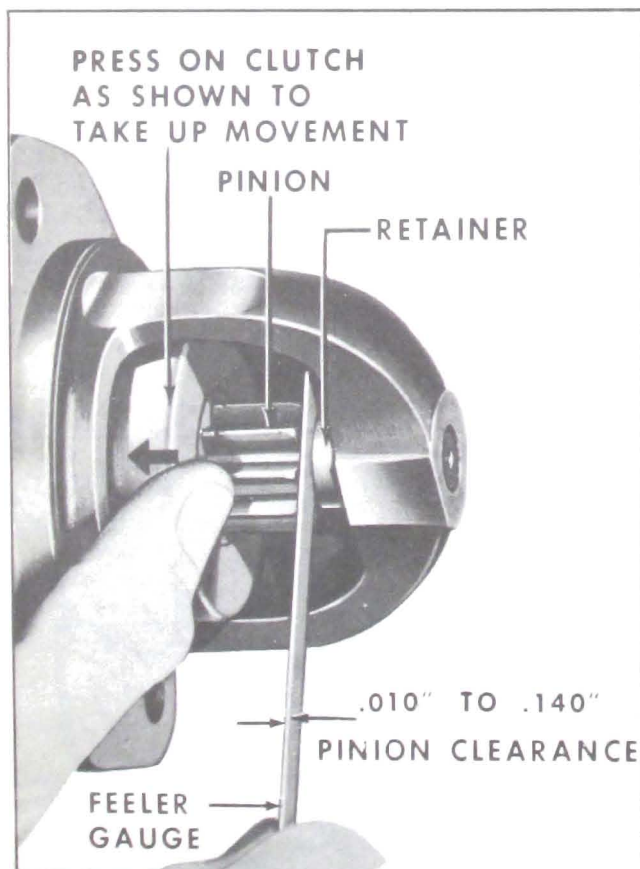

Figure 10-29—Checking Pinion Clearance
2. After energizing the solenoid, push the pinion away from the stop retainer as far as possible and use feeler gauge to check clearance between pinion and retainer. See Figure 10-29.